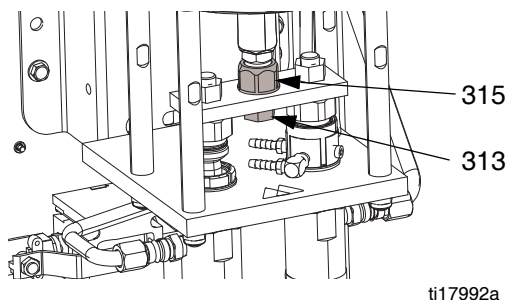

FIG. 1
7. Use a wrench to hold the piston rod in place and remove the adapter (315) with another wrench. See FIG. 1.
1. Apply medium blue thread lock on adapter (315). Use a wrench to hold the piston rod in place and install the adapter (315) with another wrench. Torque to 32-38 ft-lbs (43-51 N•m). See FIG. 1.